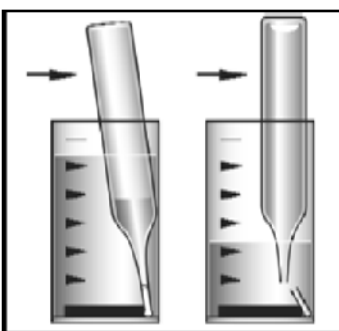

Figure 2.
2. Immediately snap the tip by pressing the ampoule against the side of the cup. The ampoule will fill leaving a small bubble to facilitate mixing (fig 2).